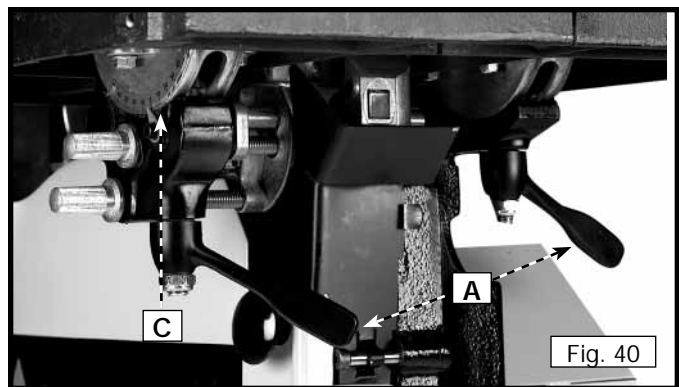

Fig. 40
1. You can tilt the band saw table 45° to the right and 9° to the left. To tilt the table to the right, loosen the two clamp handles (A) Fig. 40, tilt the table to the desired angle. Tighten the locking handles (A) Fig. 40.
2. To tilt the table to the left, loosen the two locking handles (A) Fig. 40 and tilt the table to the right. Rotate the table stop (B) Fig. 41 all the way to the right. Tilt the table to the left. Tighten the two locking handles (A) Fig. 40.
1. Loosen the table clamp handles (A) Fig. 40, and tilt the table to the right.
4. Clamp table handles (A) Fig. 40.
1. Loosen the two clamp handles (A) Fig. 40.